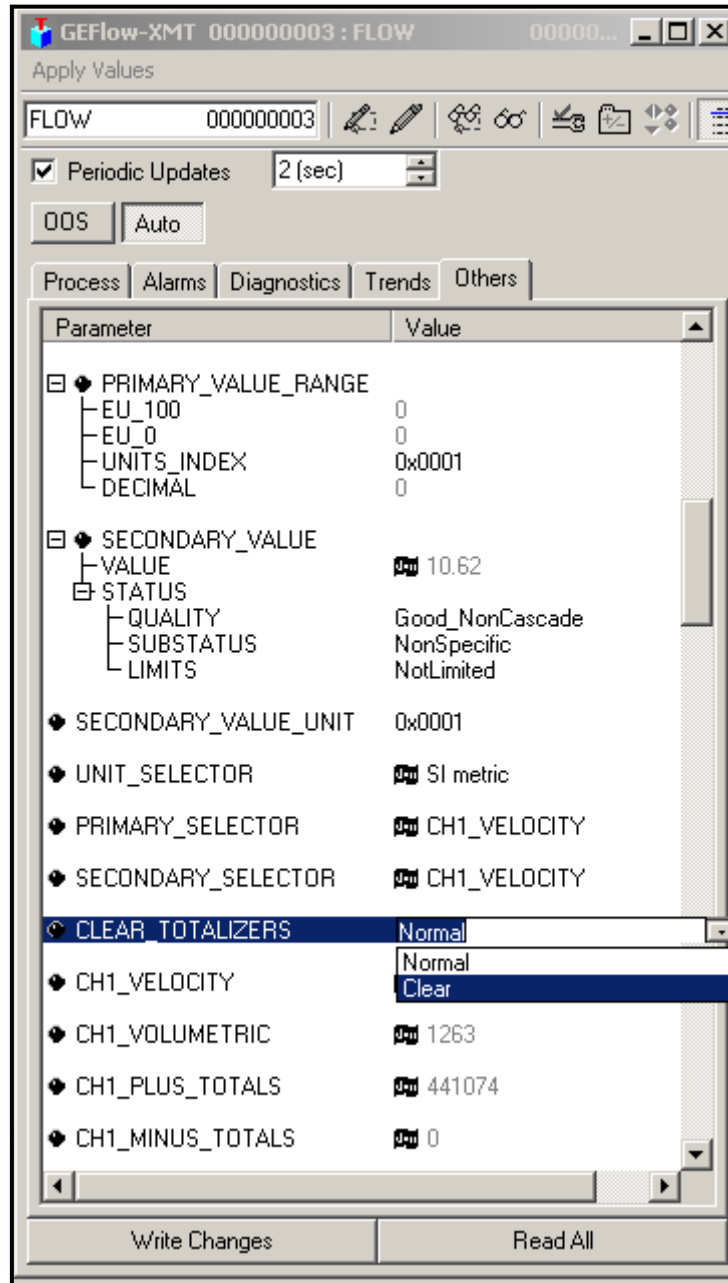

Figure 42: Clear Totalizers Drop Down List
6. Select **Clear** from the drop down list box (see Figure 42 below).